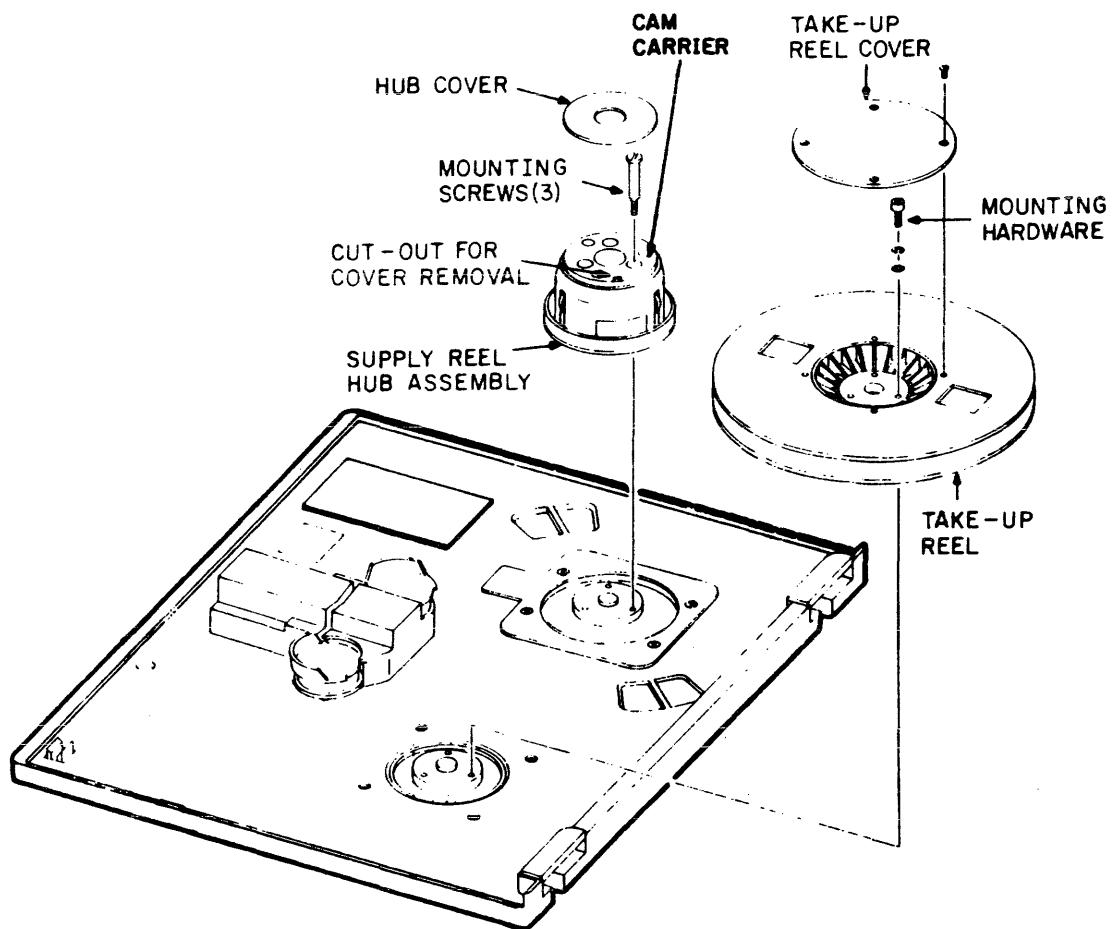

Figure 5-8. TAKE-UP REEL/SUPPLY REEL HUB ASSEMBLIES
1. Remove the four mounting screws from the take-up reel hub cover and remove the cover from the hub assembly. See Figure 5-8.
#### Removal (Refer to Figure 5-8)